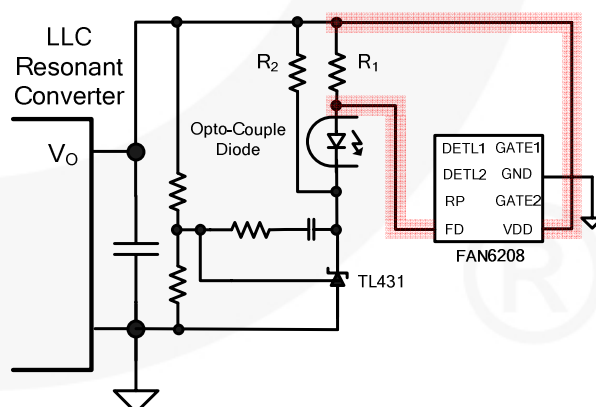
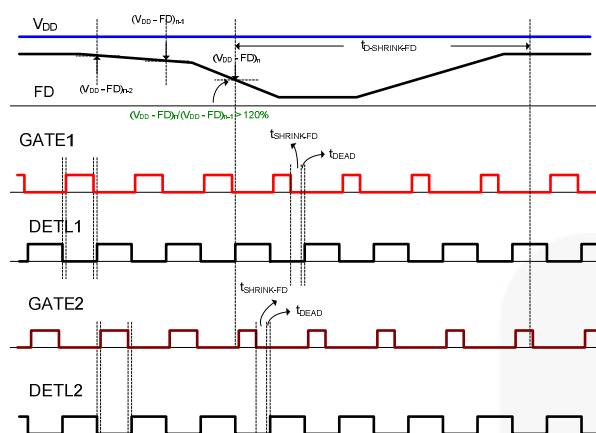
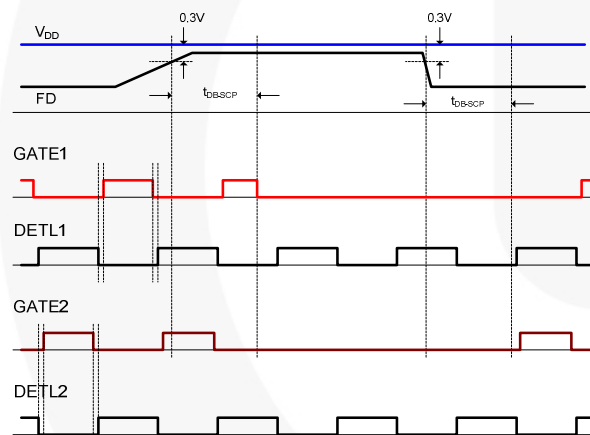

Figure 13. Typical Application Circuit
Figure 14. Gate Shrink by Feedback Detection
Figure 19. Output Short Protection by Feedback Detection
- When the feedback information changes fast. FAN6208 monitors the current through the opto-coupler diode by measuring the voltage across the resistor in series with the opto-coupler diode, as depicted in Figure 13. If the feedback current through the opto-coupler diode increases by more than 20% of the feedback current of the previous switching cycle, the SR gate signal is shrunk by $t_{\text{SHRINK-FD}}$ (about 1.4 μs) for $t_{\text{D-SHRINK-FD}}$ (about 90 μs), as shown in Figure 14.
As depicted in Figure 13, FAN6208 monitors the current through the opto-coupler diode by measuring the voltage across the resistor in series with the opto-coupler diode. When the output of the power supply is short circuited, the output voltage drops and the cathode of the shunt regulator (KA431) is saturated to HIGH. No current flows through the opto coupler diode. The output short protection is triggered when the voltage between V_{DD} and FD is smaller than 0.3V , as shown in Figure 19.